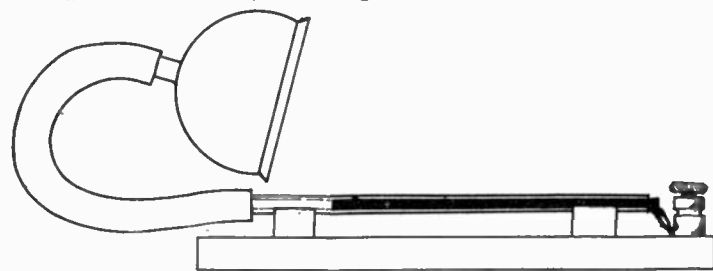

Fig. 3
Different sized fuse cases can be sawed into sections and made into insulated bushings and washers. In Fig. 3, if strip (A) is to be insulated from (B) but to be fastened to it by the one machine bolt, two large sections of fibre should be used, (F1) and (F3), and an inner smaller one (F2).
The single positive plate we treat in the same manner with a mixture of red lead and dilute sulphuric acid, which we allow to dry and harden as the first did. The plates are now wrapped each by itself in linen cloth which has been dipped in dilute sulphuric acid, and are placed one on top of the other and allowed to stand 24 hours, the cloth being constantly moistened if it tends to dry. While the plates are thus hardening, if we have no glass cell we must make a wooden one. For our plates we need a square receptacle 6 inches high and $1\frac{1}{2}$ by $1\frac{1}{4}$ inches, approximately, inside cross section. Half-inch wood will do for two of the side pieces (Fig. 2), and for the other two we use wood a little over $\frac{1}{4}$ inch thick (Fig. 3). For the bottom the piece must be $2\frac{1}{4}$ by $1\frac{3}{4}$ inches in area.